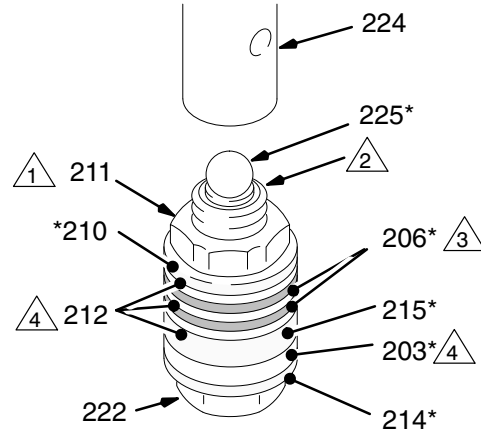

Fig. 34 03178
- Install the leather and plastic packings exactly as indicated and as shown in Figures 34 and 38. Incorrect installation causes the pump to leak and may damage the packings.
1. Stack the backup washer (214), the seal (203\*), and the female gland (215\*) on the piston valve (222). Alternately stack the packings (212\*, 206\*), and then male gland (210\*) on the piston valve (222). See Fig. 34.
2. Tighten the nut (211) against the piston valve (222). Torque the nut to 19 ft-lb (27 N.m).
**Note the alignment** of the piston (222) to the nut (211). Maintain this alignment through Step 7.
3. Place the ball (225) on the piston valve (222). See Fig. 34.
4. Apply one drop of adhesive, supplied, to the threads of the piston valve assembly. Hand tighten the assembly in to the piston rod just until the nut (211) makes contact with the rod (224). See Fig. 34.